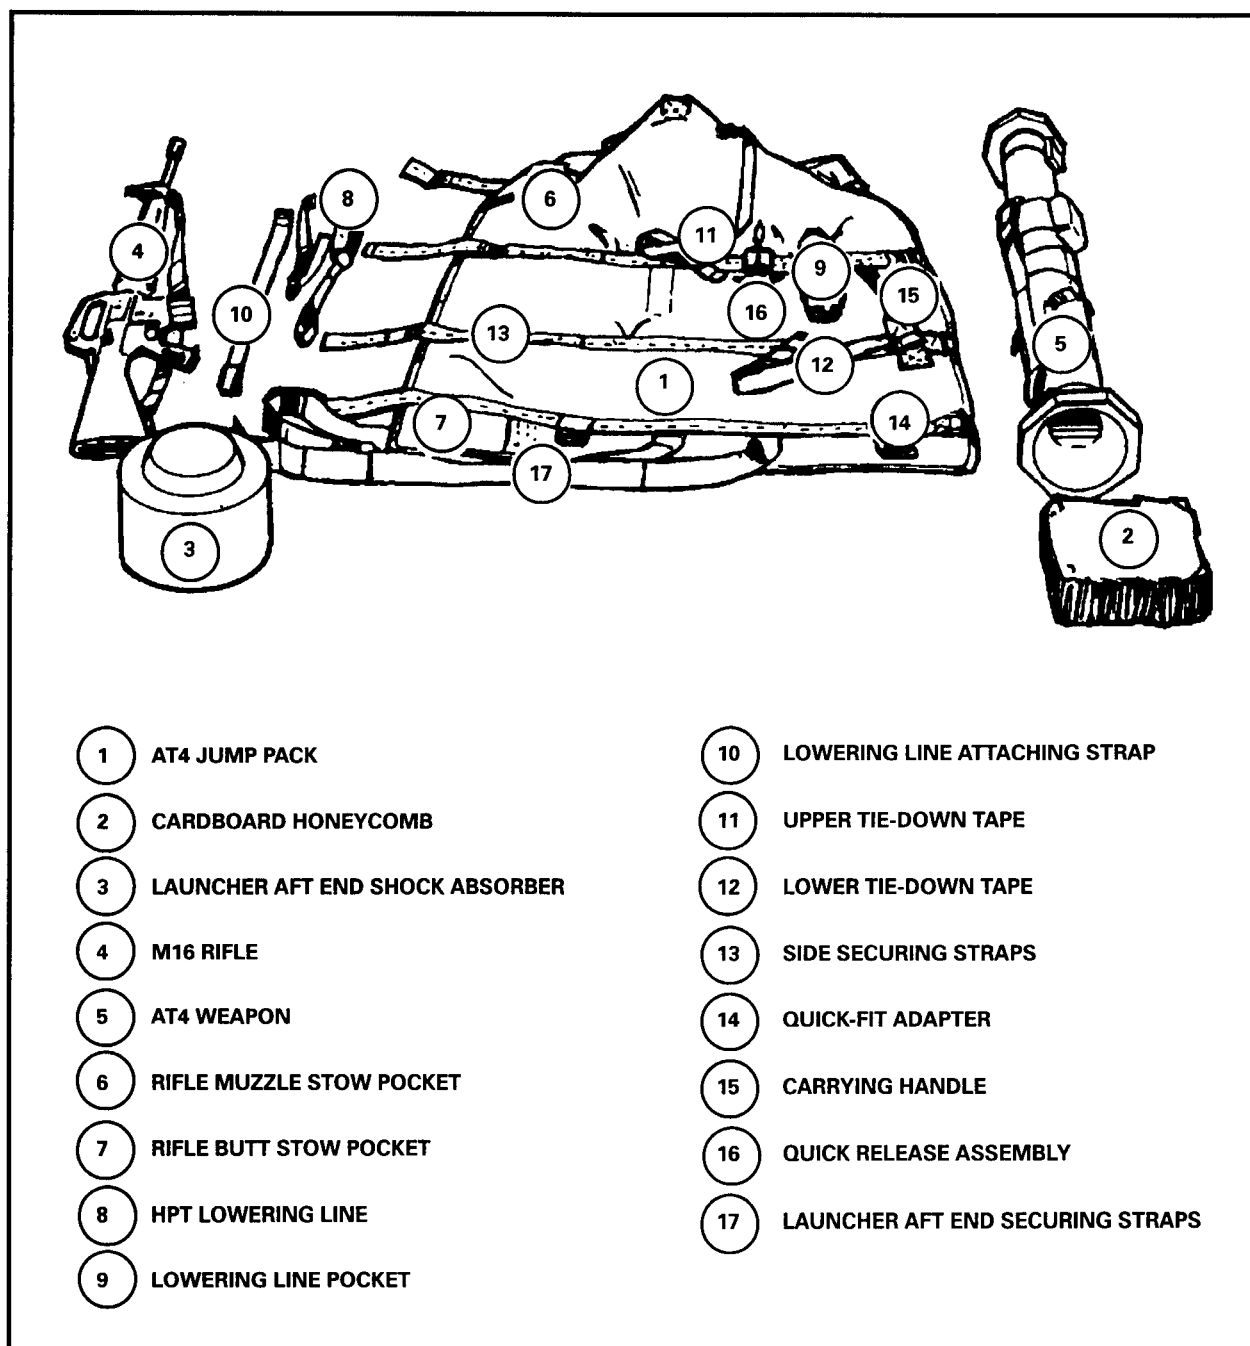

Figure 12-48. AT4 nomenclature.
b. The shock absorber (polyurethane/honeycomb) configuration at the aft end of the jump pack is intended to prevent damage to the AT4 weapon round during ground impact. Upon landing, the parachutist can rapidly gain access to the weapon round and M16/M203 by pulling the quick releases rigged into the jump pack securing straps. The total assembly is shown in Figure 12-48, page 12-52.